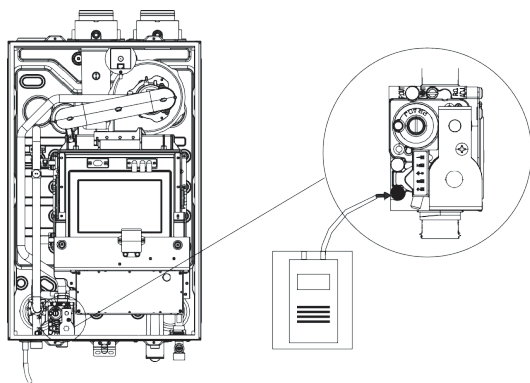

Figure 24
7. Fully remove the front cover. (Figure 24)